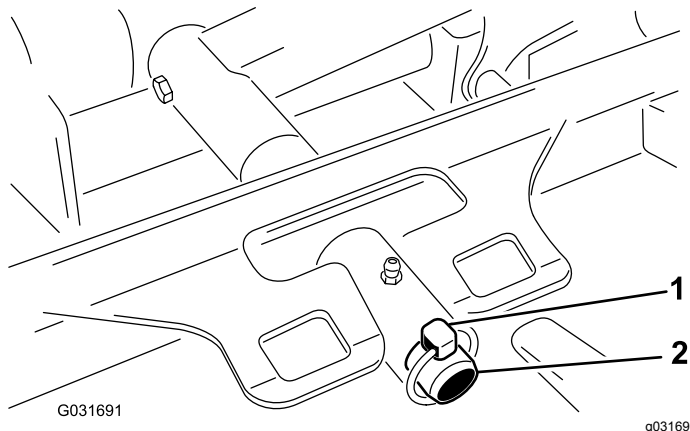

Figure 80
3. Remove the lynch pin securing the deck carrier frame to the lift arm pivot pin (Figure 80).
3. Slide the deck carrier frame onto the lift-arm pivot pin and secure it with the lynch pin (Figure 80).